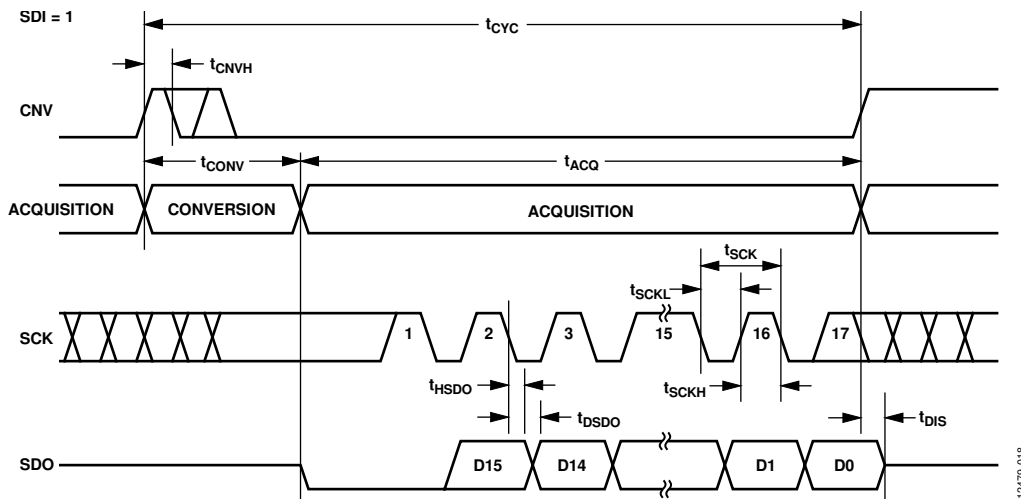
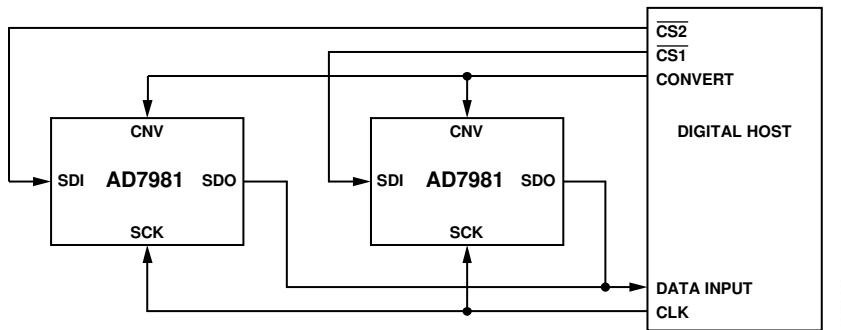
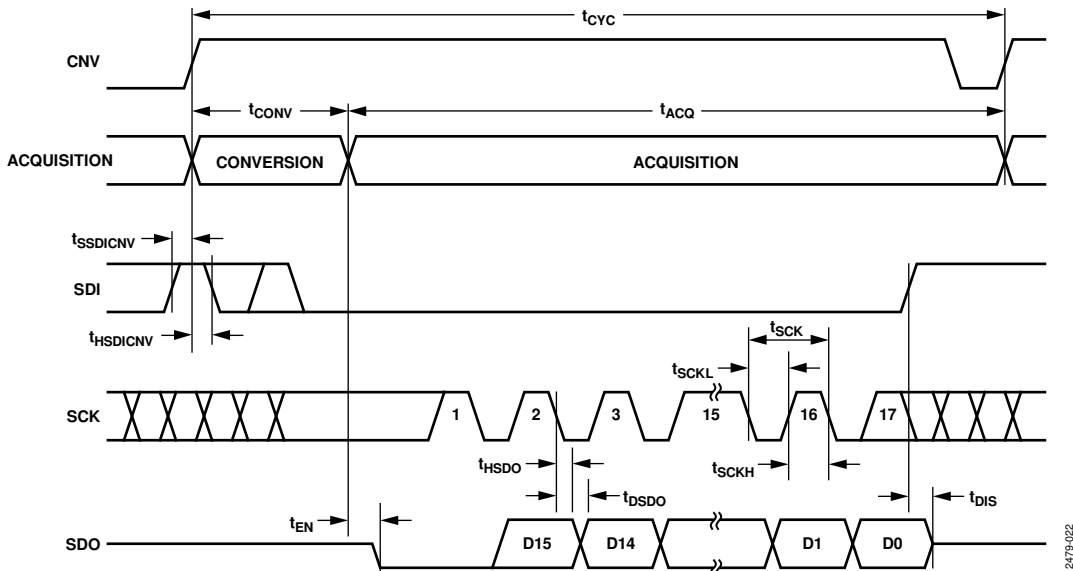
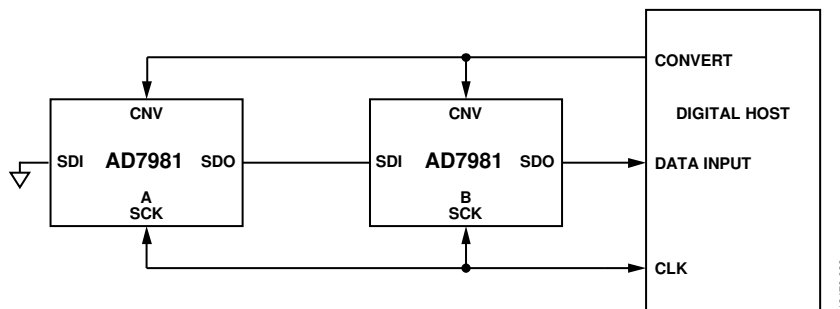

Figure 44. 3-Wire  $\overline{CS}$  Mode with Busy Indicator Serial Interface Timing (SDI High)
Figure 45. 4-Wire  $\overline{CS}$  Mode Without Busy Indicator Connection Diagram
Figure 48. 4-Wire  $\overline{CS}$  Mode with Busy Indicator Serial Interface Timing
Figure 49. Chain Mode Without Busy Indicator Connection Diagram
- In  $\overline{\text{CS}}$  mode if CNV or SDI is low when the ADC conversion ends (see Figure 45 and Figure 49, respectively).
The 3-wire  $\overline{CS}$  mode with a busy indicator is typically used when a single AD7981 is connected to an SPI-compatible digital host having an interrupt input. The connection diagram is shown in Figure 44, and the corresponding timing is given in Figure 45.
The connection diagram is shown in Figure 48, and the corresponding timing is given in Figure 49.